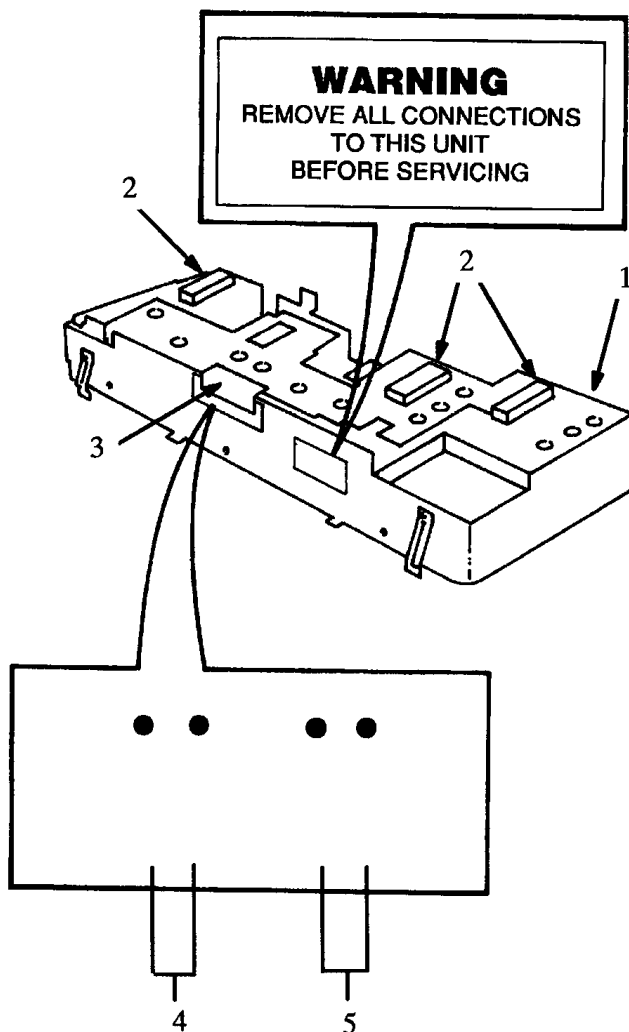
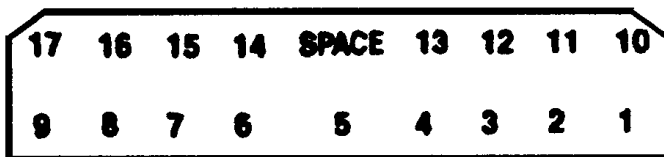
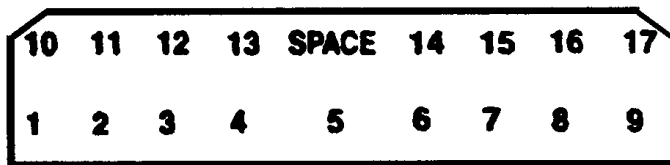

Figure 21 Jumper Pin Location
Figure 22 Harness Connector Pins
Figure 23 Cluster Connectors
The speedometer jumper pins are used to set up the cluster for MPH or KPH as the primary speedometer readout, and to select axle ratios. They are located at the top edge of the cluster and can be accessed by pulling the cluster out of the instrument panel (Item 3, Figure 21). All other speedometer and tachometer parameters are programmed electronically through the data link into the engine ECM2.
There may be two jumpers visible. The left jumper is for setting the odometer from English to metric readings (Item 4, Figure 21). For miles per hour (MPH), the jumper is not installed. For a kilometers per hour (KPH) speedometer, the jumper is installed.
The right jumper (Item 5, Figure 21) is for calibration of the two available two-speed axle ratios. These are 1.36:1 (jumper not installed) and 1.39:1 (jumper installed). If the vehicle does not have a two-speed axle, the jumper setting is inactive and a jumper is not needed.
Each harness connector has seventeen (17) pins numbered right to left. The bottom row contains pins 1 through 9 and the top row, pins 10 through 17. There is a space between pins 13 and 14 (Figure 22).
Looking at the rear of the cluster (Figure 21), the two connectors (Figure 23) will be the reverse of the plug-in harness connectors (Figure 22). The center is green (11) and the left is natural (12).